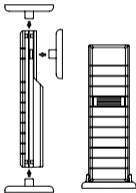

Figure 2
2. Wireless Temperature Sensor (TX29) and mounting bracket. (Figure 2)